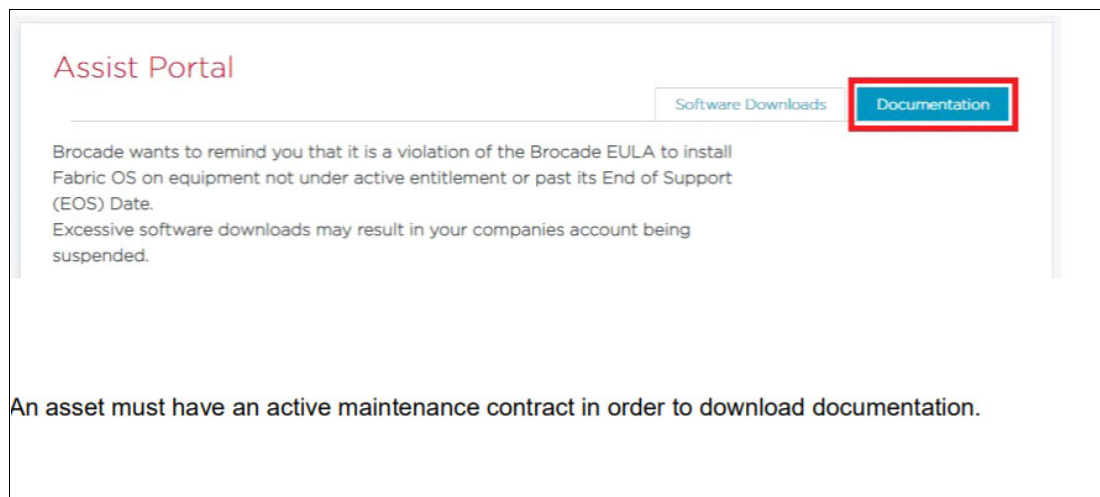

Figure 11-19 Clicking the Documentation tab
- If you need to download the relevant documentation for your FOS versions and software products, click the **Documentation** tab at the upper right, as shown in Figure 11-19.